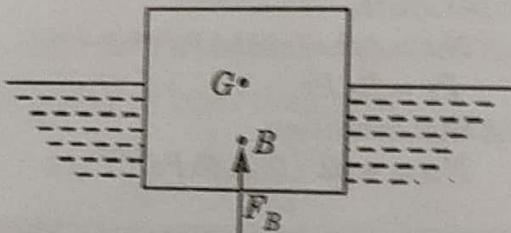

Fig. 3.18.1.
3. In Fig. 3.18.1, F_B is the force of buoyancy and point B is the centre of buoyancy.